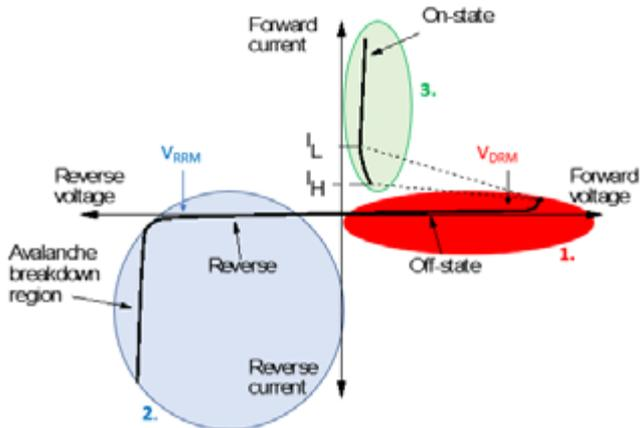

Figure 1: An SCR's typical current – voltage characteristic
The SCR, or Silicon Controlled Rectifier, is defined as a switching device having a four-layer p-n-p-n structure, leading to bi-stable behavior which can be switched between a high-impedance, low-current OFF-state and a low-impedance, high-current ON-state. SCR is a power semiconductor device that can block forward and reverse voltage for AC mains and conduct current in the forward direction. It can be considered as a current-controlled power switch. The typical current (I) – voltage (V) characteristic is shown in Figure 1. The reverse behavior is like a diode, which enters the avalanche breakdown region when reverse voltage is higher than the breakdown voltage. With forward bias, the SCR can be turned ON by apply a gate trigger current or a forward voltage larger than the breakover voltage.